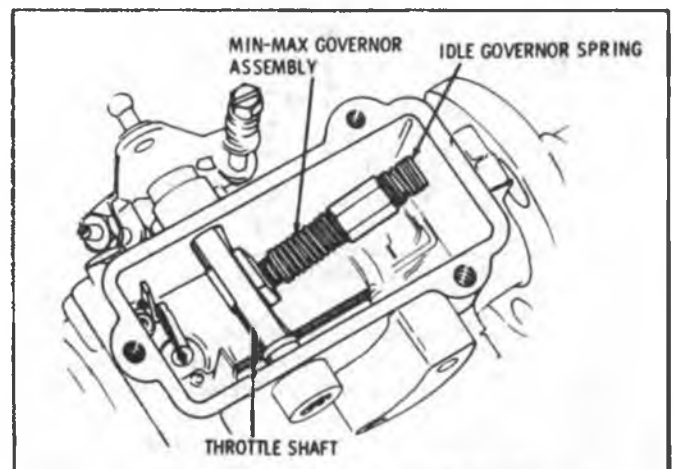

Fig. 2-24 Min-Max Governor Removal
5. Remove three (3) governor cover screws and governor cover (top of pump).
7. Remove min-max governor assembly (Fig. 2-24).
17. Install the min-max governor assembly (Fig. 2-24).